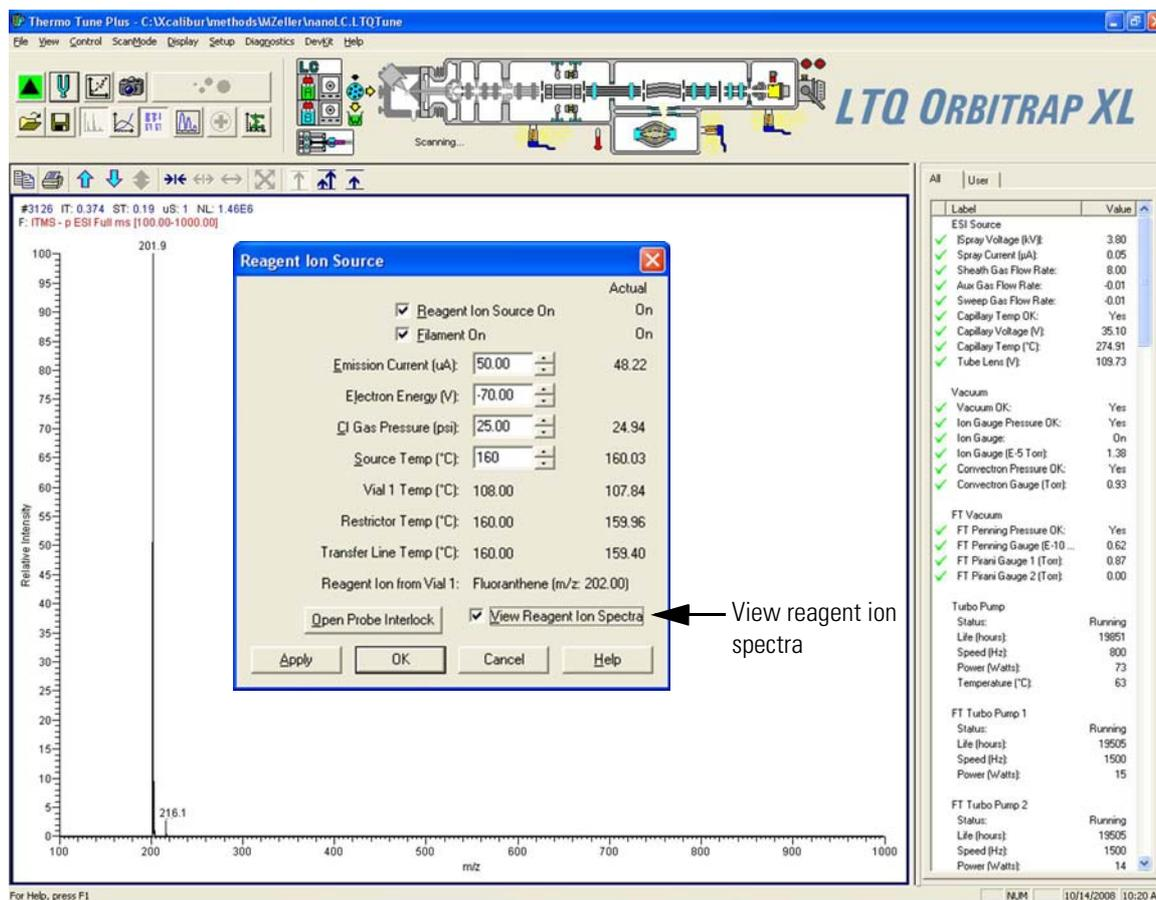

Figure 8-10. Tune Plus window showing the fluoranthene radical anion mass spectrum
1. Select the View Reagent Ion Spectra check box in the Reagent Ion Source dialog box. See Figure 8-10.
2. Reagent ion peaks appear in the Spectrum view. See Figure 8-10.
3. In the Reagent Ion Source dialog box, select the View Reagent Ion Spectra check box. See Figure 8-10 on page 8-11.